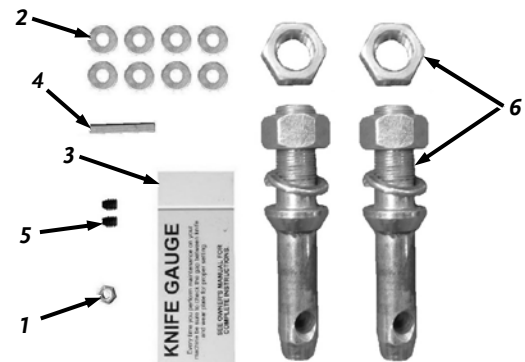

Figure 3
- Hardware Package (**Figure 3 and List below**)